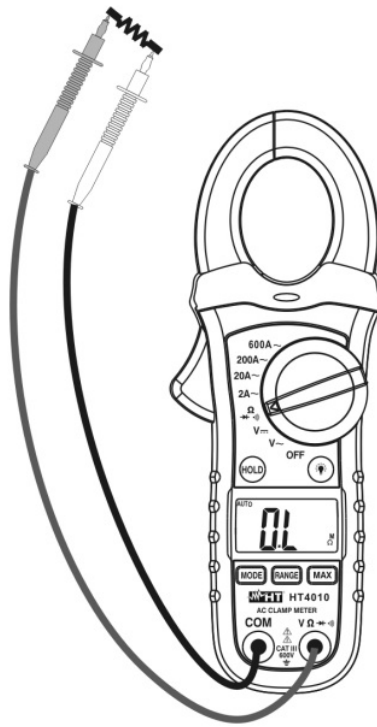

Fig. 5: Taking resistance measurement
4. Connect the two long ends of test leads to the desired circuit (see Fig. 5) then reading value of resistance will be displayed